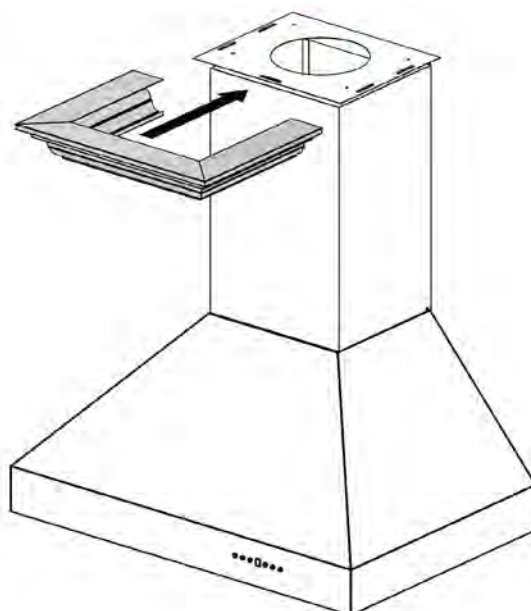

*Figure 3*
3. Extend the chimney up to the transformer. Slide the crown molding onto the crown bracket and secure into place. The crown should cover the gap. Ensure that it installs properly and is level. *Figure 3*